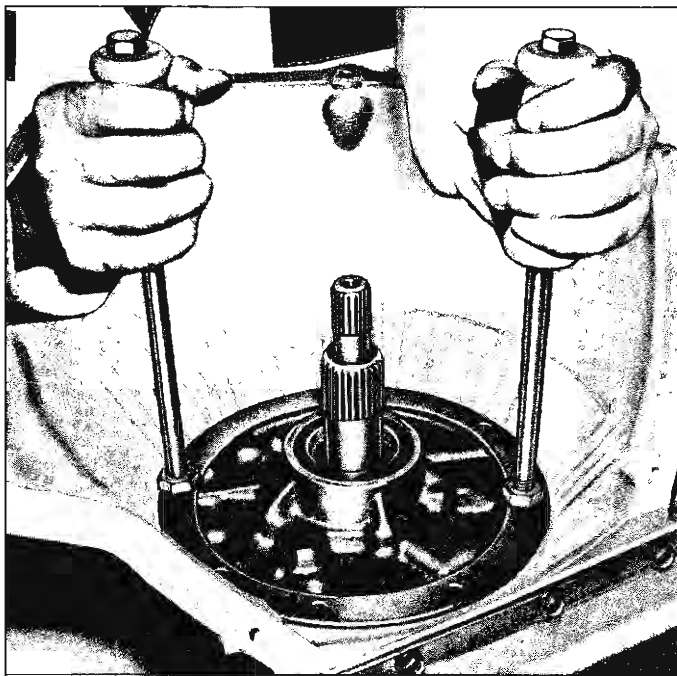

Fig. 11—Removing Front Oil Pump
12. Remove the front oil pump and stator shaft assembly and the selective fit thrust washer using J-9539 (or two 3-8" - 16 x 10" stove bolts) and the slide weights from Tool J-6565 (fig. 11). Note the two threaded holes in the pump to mount the pullers. Remove the front pump ring seal and gasket.